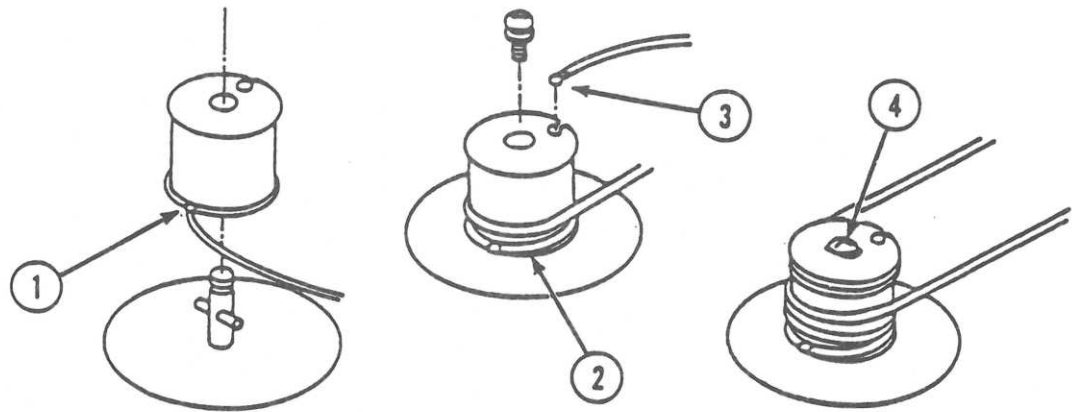

FIGURE 24
6. Insert the long end of the wire into the bottom slot on the motor pulley. (See Figure 24, #1.)
8. Seat the motor pulley on the shaft. (See Figure 24, #2.)
10. Insert the short end of the wire into the top slot of the motor pulley. (See Figure 24, #3.)
(See Figure 24, #4.)